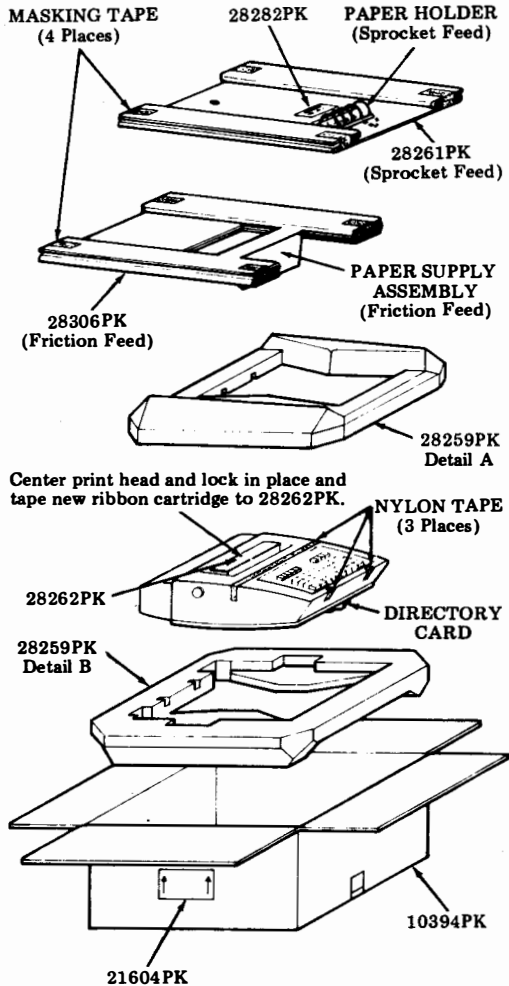

Fig. 19
6.04 Using the containers and packing detail retained in 3.06, pack the 43 Teleprinter as shown in Fig. 19.